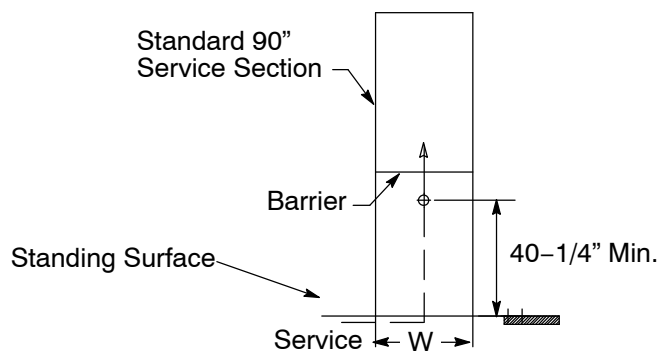

Figure 11
4. The minimum termination height is 40–1/4 inches for Bottom–Fed Service Sections only as shown in Figure 11 on Page 11.
2. Added Figure 11 on Page 11.